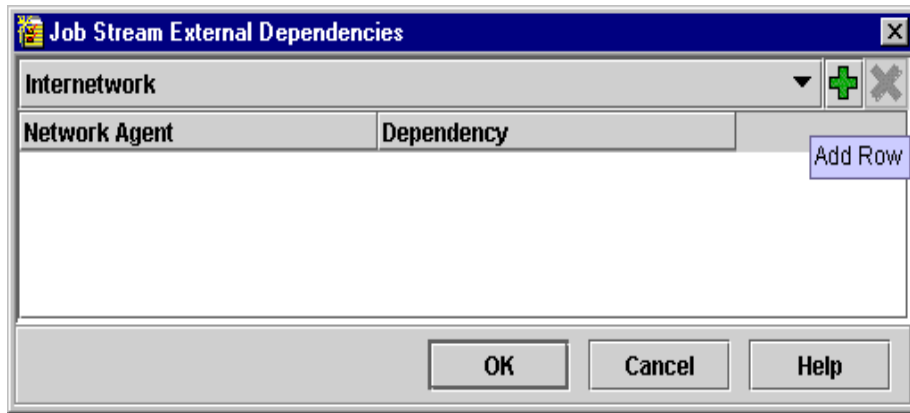

Figure 216. Add rows
5. Select **Internetwork** and then **green cross** in the upper right corner as shown in Figure 216 on page 349.